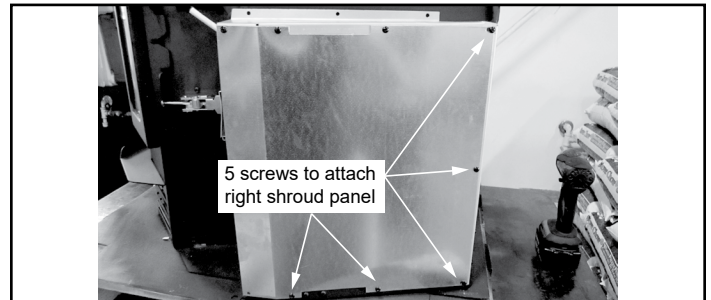

Figure 22.6
9. Attach the right panel assembly using 4 screws to appliance (**Figure 22.6**).